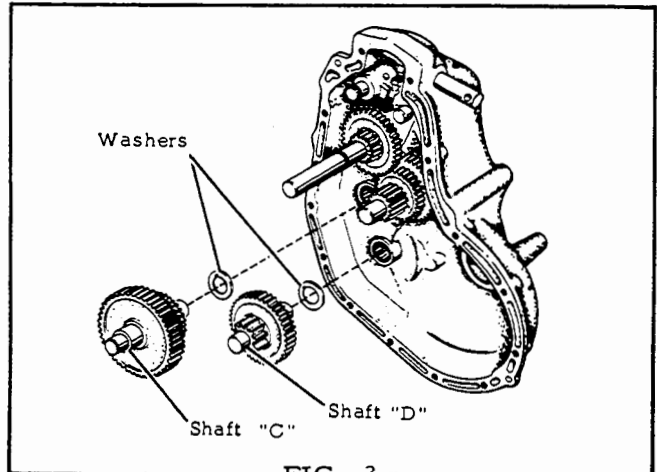

FIG. 3
4. Lift out shaft 'C' with gear assembly and then remove shaft 'D' with its gear assembly. See Fig. 3.